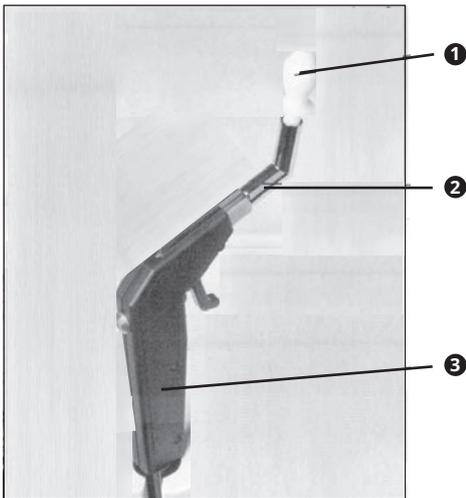

Fig. 18. Compressed-air handle with Politzer adapter
- ❶ Release button
- ❷ Air valve
- ❸ Adjusting lever
- The adapter (❷, fig. 18) supplied for this purpose is locked into the compressed-air handle.
- Politzer olive (❶, fig. 18) is inserted in the adapter.